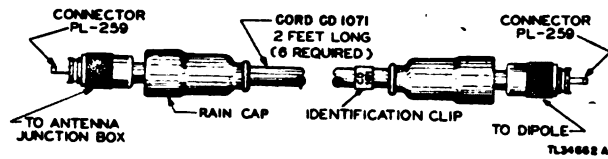

Figure 64. Cord CD-1071.
- d. Attach the six Cords CD-1071 (fig. 64) which are provided for making the connections between the lobe-switch box and the dipoles. Connect each of the cables between a numbered receptacle on the lobe-switch box and a correspondingly numbered receptacle on the dipole as shown in figure 63B.